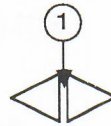

FIGURE 9
2. Locate the two jumper pads marked SC (Figure 8, #1). Using the exacto knife, separate the two jumper pads, one pair at a time, by cutting the junction at the location indicated in Figure 9, #1.